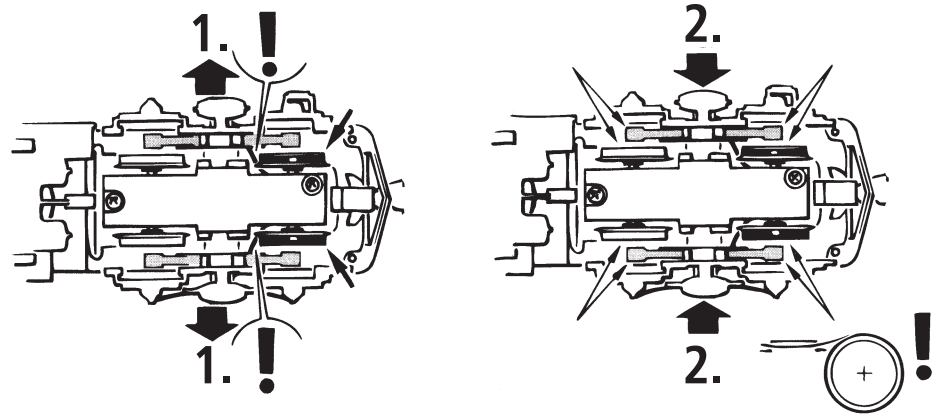

Fig. 5
**1. Cleaning of wheel contacts:** Wheel contacts easily get dirty on tracks which are not entirely clean. Use a small brush to **remove dirt** from spots marked in fig. 5.